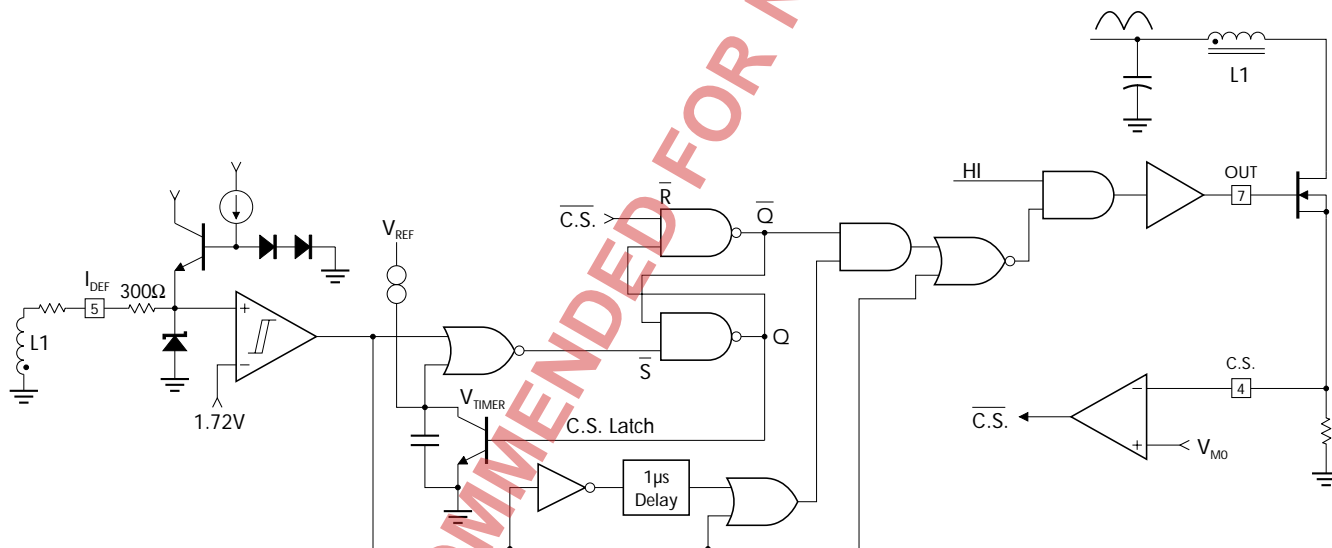

FIGURE 30 — START-UP TIMER & CURRENT DETECT LOGIC CIRCUITRY
The function of "current detect logic" is to sense the operating state of the boost inductor and to enable the output driver accordingly. To achieve this, the downward slope of the inductor current is indirectly detected by monitoring the voltage across a separate winding and connecting it to the detector input " I_{DET} " pin. Once the inductor current reaches ground level, the voltage across the winding reverses polarity and changes the " I_{DET} " input and the comparator output to the low state (See Figure 30). When comparator changes state, it sets the latch and turns on the output driver for a period of 1 μ s (typ.) regardless of any changes in the latch output (\bar{Q}) within this period. This ensures that if the C.S. comparator changes state due to any turn-on spike, the driver output remains on and does not turn off prematurely.
A start-up timer circuit eliminates the need for an external oscillator when used in stand alone applications. The timer, as shown in Figure 30, provides a means to automatically start the pre converter if the latch output \bar{Q} comes up in a wrong (HI) state. The timer capacitor ramps up and resets the latch to a low state, turning the output driver on.